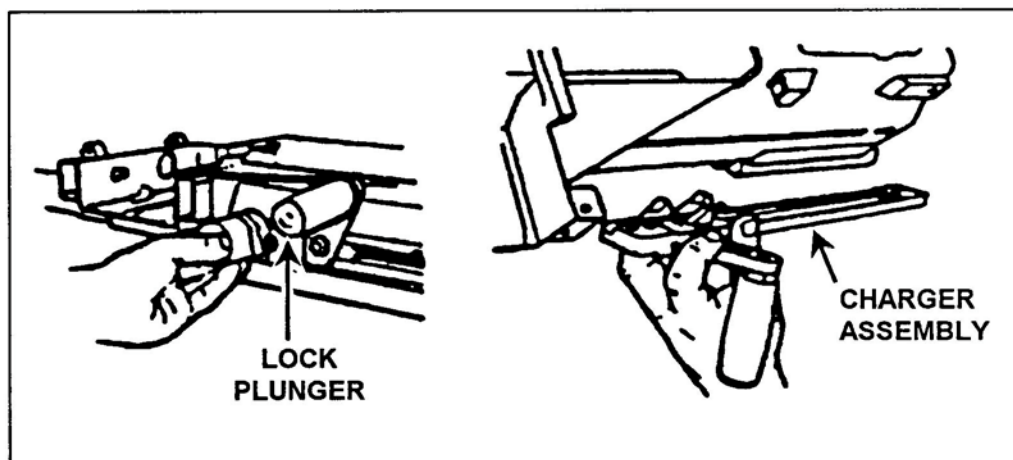

Figure 13. Removal of the charger assembly.
- (1) Grasp the two control grips with both hands and lift up slightly to disengage the backplate from the locking lugs in the receiver.
- (2) Pull the round positioning block toward the muzzle end of gun.
- j. Remove the charger assemblies (both sides)(Figure 13).